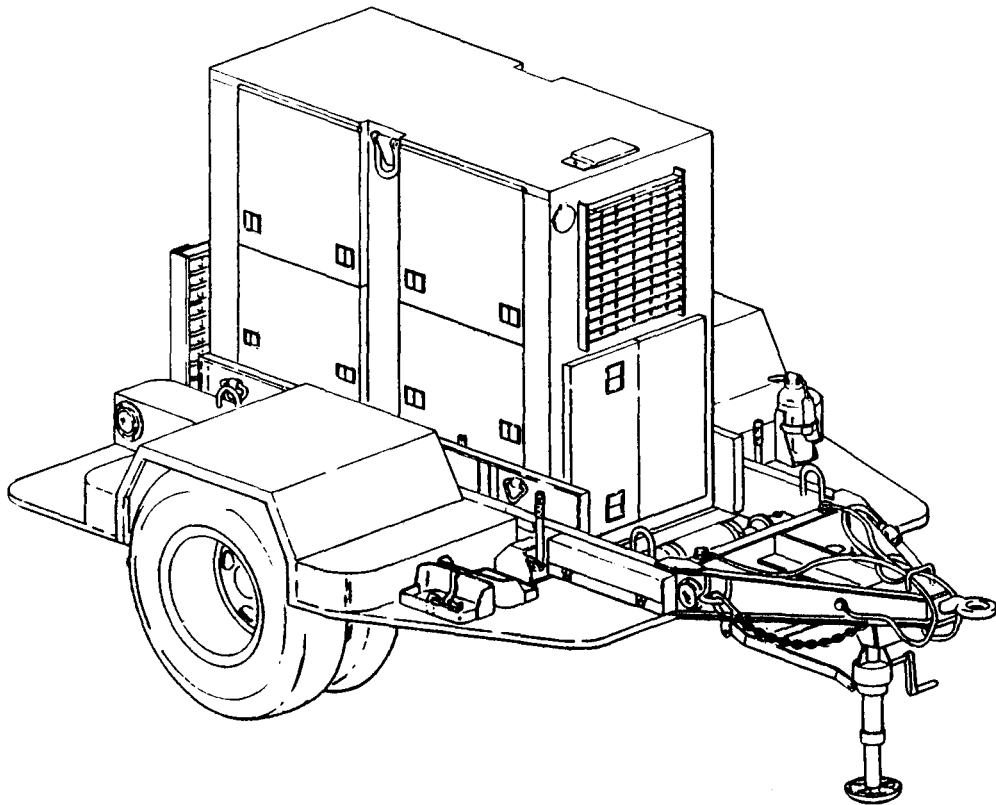

Figure 1-1. Power Unit, Curbside Front, Three-Quarter View.
**1-10. Description.** Power Unit PU-405A/M (figures 1-1 and 1-2) is made up of one Tactical Utility Generator Set, DOD Model MEP-004A, mounted on a modified M200A1 trailer. The generator set is a liquid-cooled, diesel engine-driven unit with a load capacity of 15 KW at 50/60 Hz. The trailer is a two-wheeled unit with dual tires mounted. The trailer has a 2-1/2-ton carrying capacity. The modifications to the basic trailer provide stowage for the accessories and all equipment necessary for mobile operation as well as providing a work platform for the operator and maintenance personnel.